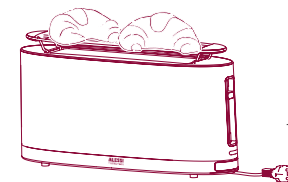

Fig. 11
- 2 Put no more than two pieces at a time in the centre of the bunwarmer (fig. 11).